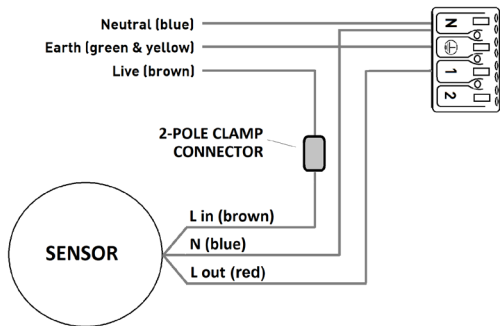

Fig. 1
- Ensuring correct polarity is observed, carefully wire as shown in Fig. 1, using the 2-pole clamp connector provided